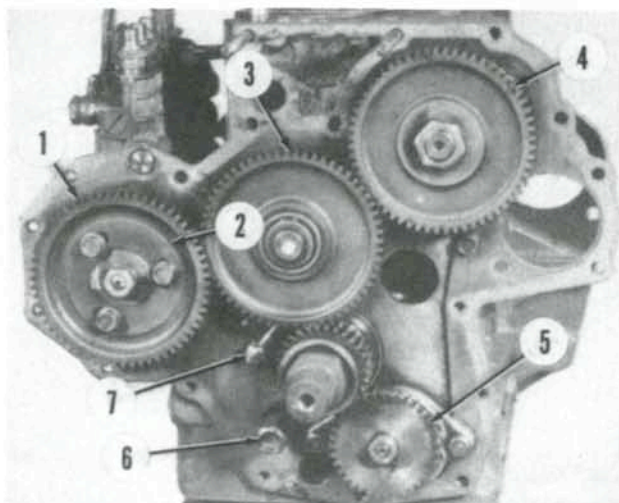

Fig. 70—View of engine timing gears on Model 1710.
injection pump and drive gear (1—Fig. 70), idler gear (3) and shaft, camshaft gear (4), engine oil pump (5), oil pressure relief valve (6) and oil transfer tube (7). Remove engine front plate, then withdraw camshaft.